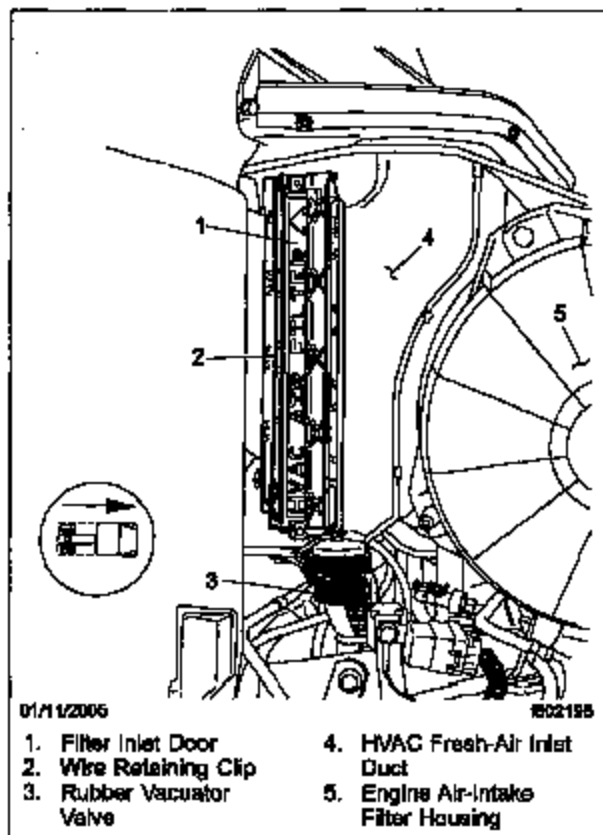

Fig. 2, Filter Inlet Door and Vacuum Valve (current Century Class and Columbia)
6. Locate the HVAC fresh-air filter door on the passenger side of the vehicle. See Fig. 2. On vehicles built before June 24, 2002, the filter door is attached with screws instead of a retaining clip and has a foam rubber gasket attached to it.
7. Check the rubber vacuator valve at the bottom of the air inlet duct to make sure it is present, undamaged, and not held open by debris. See Fig. 2. Clean or replace the vacuator valve, as needed.